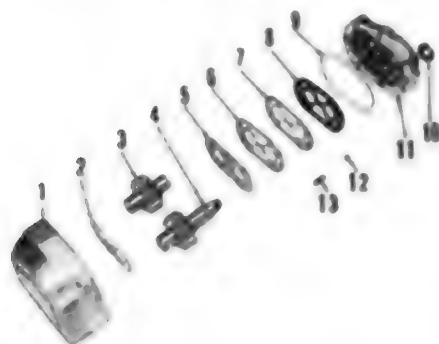
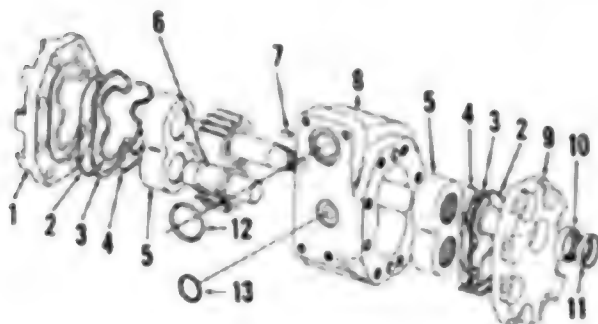

Fig. 28 - Exploded view of Cessna hydraulic pump.
Fig. 29 - Exploded view of Plessey hydraulic pump.
**17. Tractors** may be equipped with either Cessna (Fig. 28) or Plessey (Fig. 29) gear type pumps. A 12.5 gpm pump is used on Model 684 and a 13.0 gpm pump is used on Models 784, 884 and Hydro 84. A priority type flow divider takes approximately 2.5 gpm for the power steering and the balance is used for the draft and position controls on the hydraulic lift system and for the auxiliary control valves.
**19. OVERHAUL (CESSNA).** With pump removed from MCV, proceed as follows: Remove pump drive gear and key, then unbolt and remove cover (11 - Fig. 28) from body (1). Balance of disassembly will be obvious after an examination of unit.
**20. OVERHAUL (PLESSEY).** With pump removed from MCV, proceed as follows: Remove pump drive gear and key, then unbolt and remove covers (1 and 9 - Fig. 29) from body. Balance of disassembly will be obvious after an examination of unit.